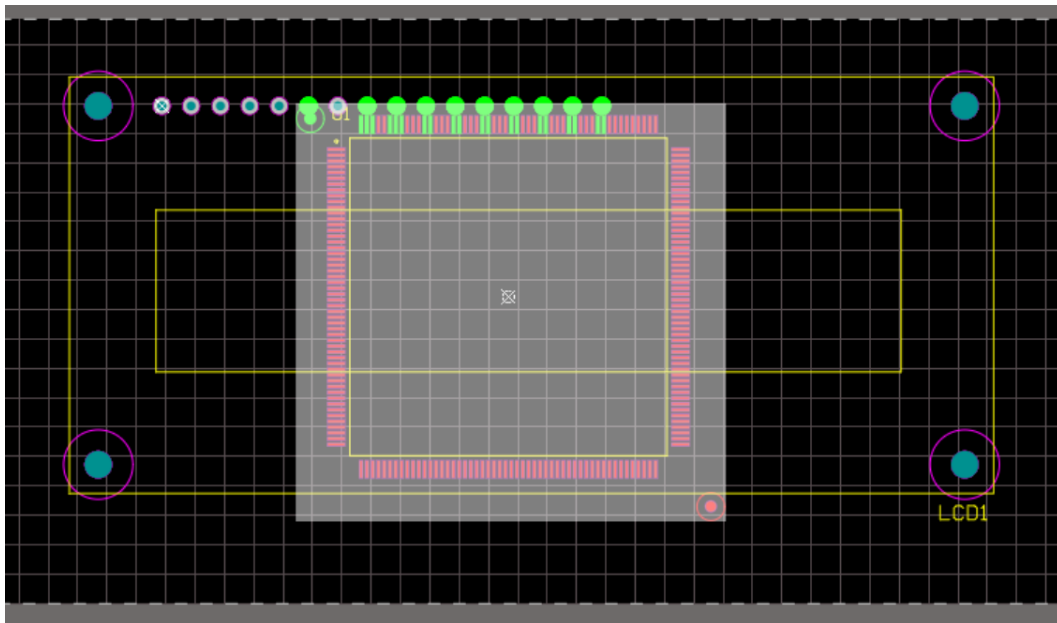

Figure 6. Pads violating
- c) Select **OK**. This should cause the pads of the LCD display and the FPGA to violate and will highlight in the online DRC violation color, Figure 6. This is an Electrical Clearance rule violation and not a Component Clearance rule violation.